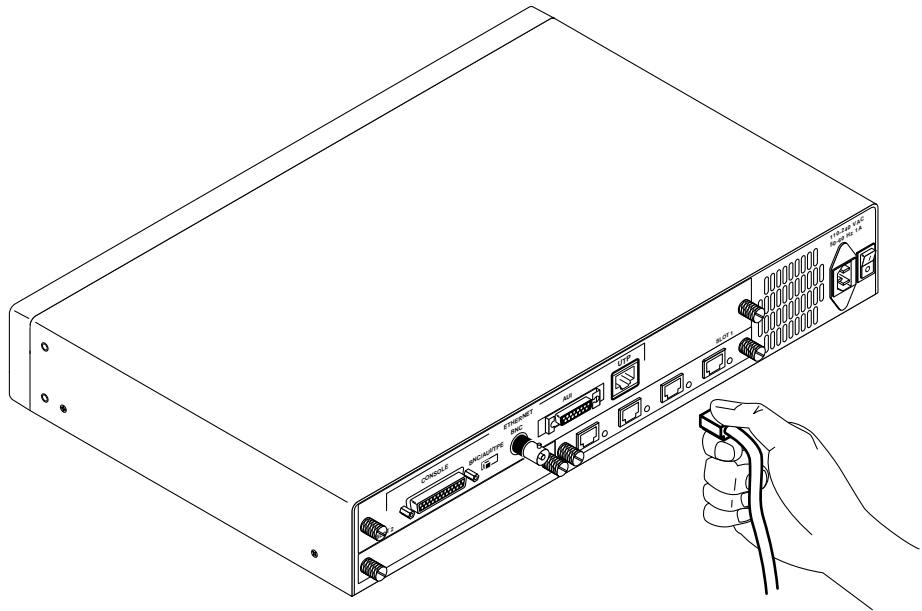

Figure C-6 Connecting a Cable to an Asynchronous I/O Card
- 1 Connect the RJ-45 end of the cable to the asynchronous port on the I/O card, then attach the DB-25 end of the cable to the modem as shown in Figure C-6.